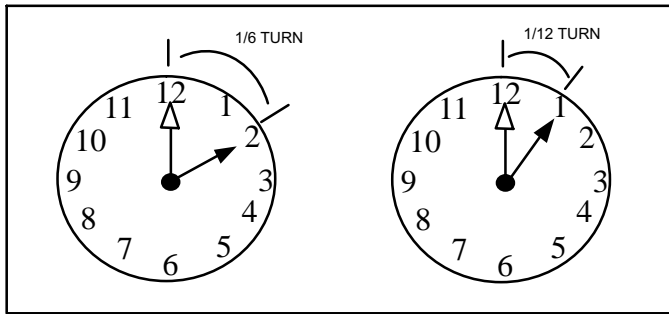

FIGURE 9
- *Without Torque Wrench:* Finger tighten and use an appropriately sized wrench to turn an additional 1/6 turn clockwise as illustrated in figure 9.
4. Replace the stem caps and secure finger tight, then tighten an additional one-sixth (1/6) of a turn as illustrated in figure 9.
- D Replace the stem caps and secure finger tight, then tighten an additional one-sixth (1/6) of a turn as illustrated in figure 9.